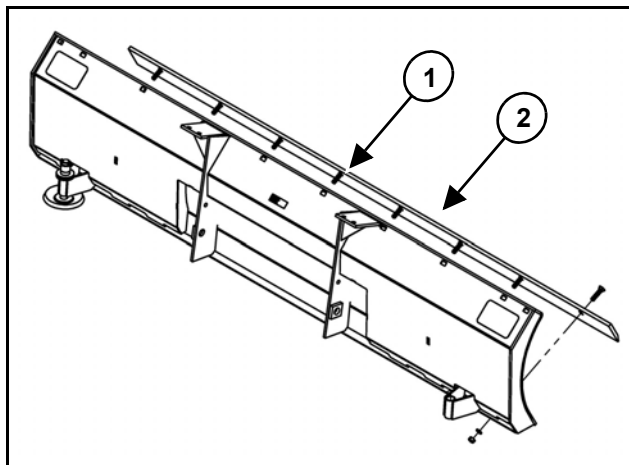

Figure 10
5. Remove all fasteners (Item 1) except the fasteners at each end of the cutting edge (Item 2) [Figure 10].